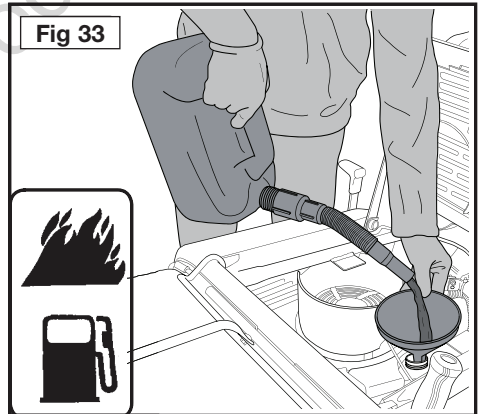

Fig 33
2) Loosen the petrol tank cap (fig.33)